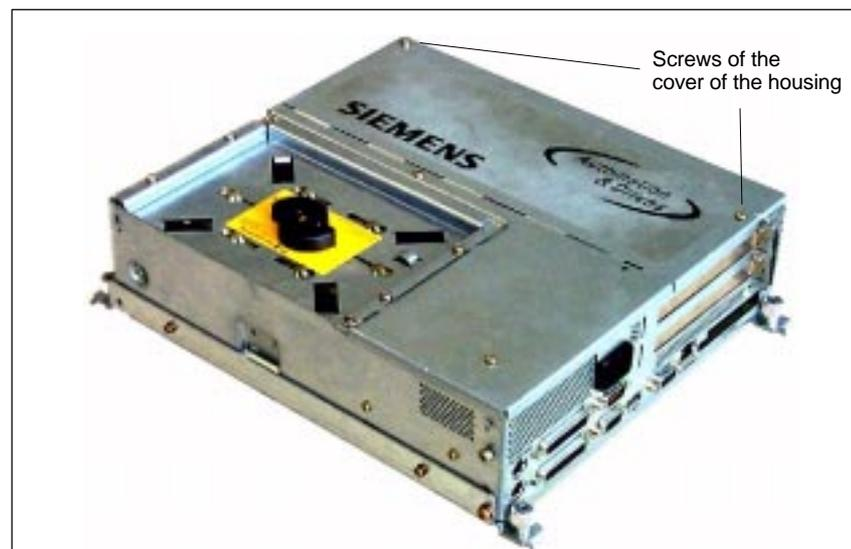

Fig. 2-10 Cover of the housing of the PCU 50
3. Remove the screws from the cover of the housing (Fig. 2-10) and open the housing of your PC, observing the relevant safety regulations.